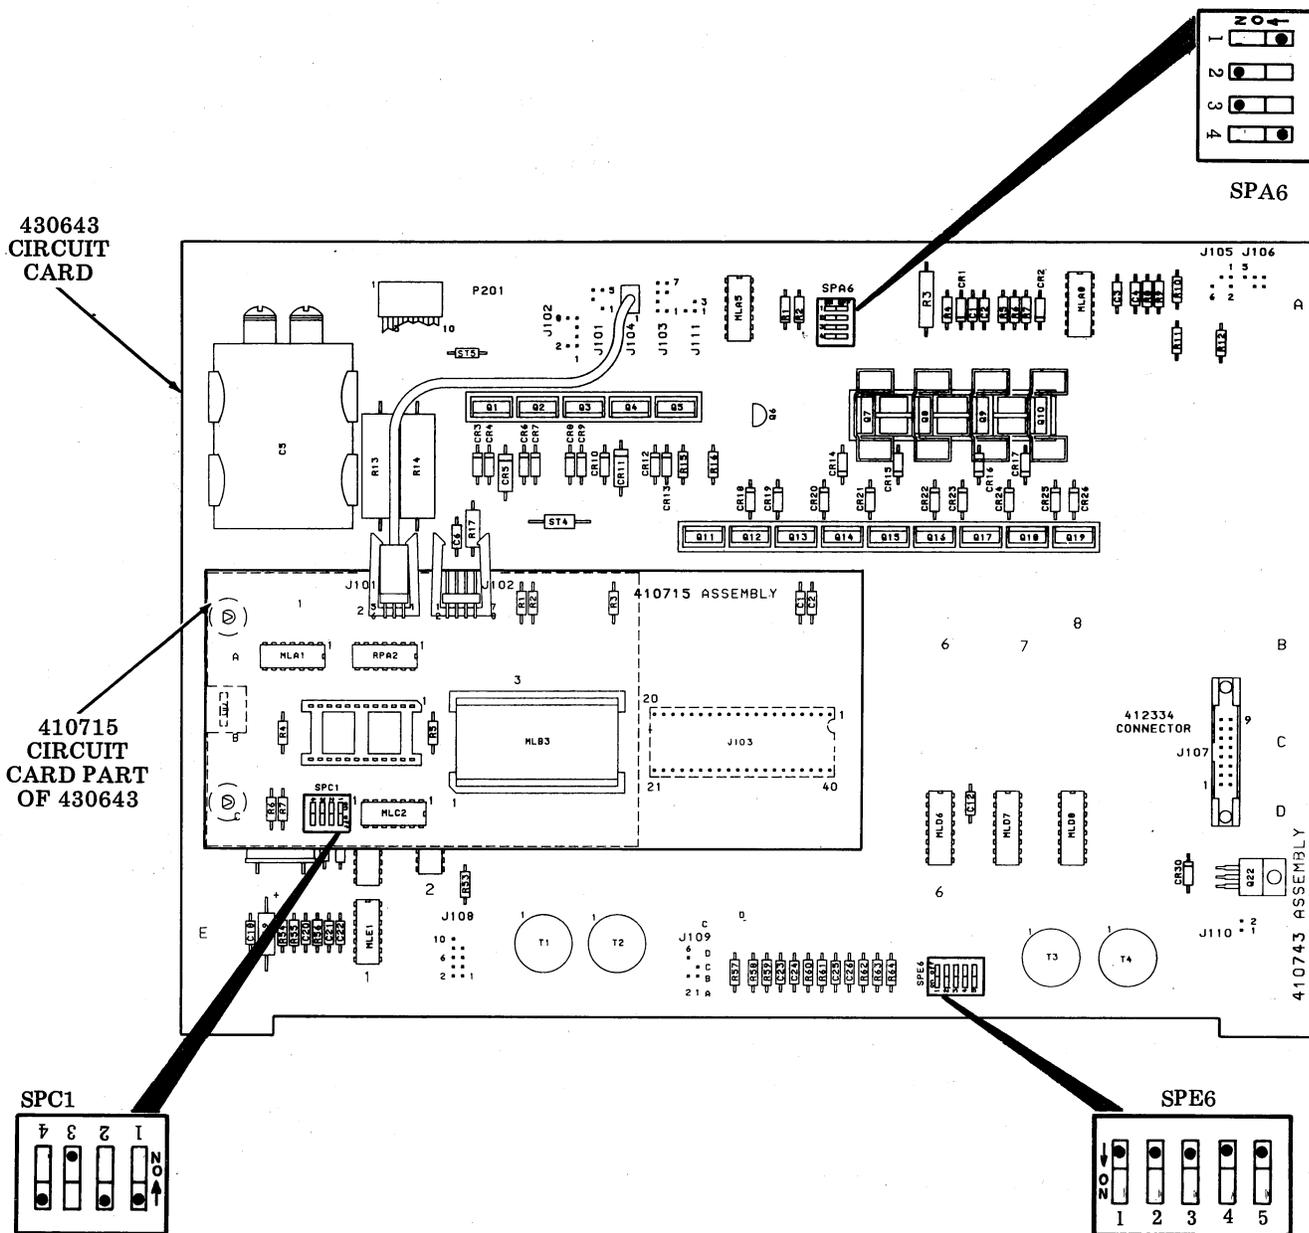

Fig. 9
4.01 There are no options for the printer used in a 4540 application. Switches must remain in factory furnished position as shown in Fig. 9.